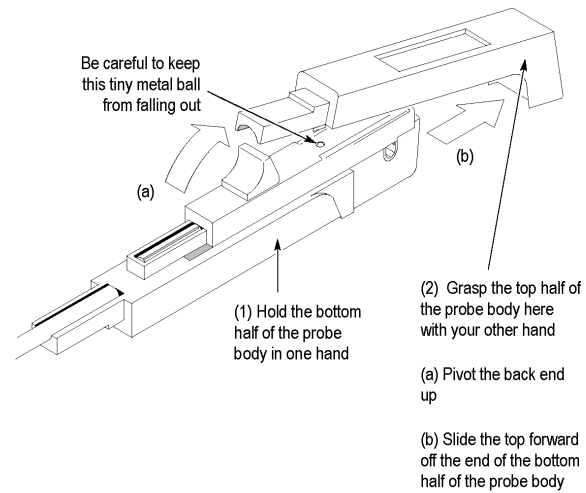

Figure 24: Removing the Top Half of the Probe
3. Hold the probe in a top-up horizontal position and slide the top half of the probe body off. (See Figure 24.)